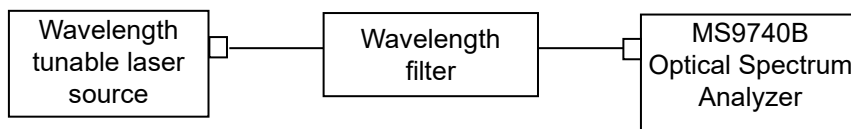

Figure 7.2.3-1 Dynamic Range Performance Test Setup
1. Connect the test equipment to the MS9740B as shown in Figure 7.2.3-1.